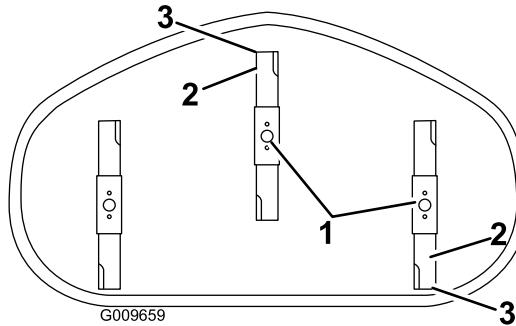

Figure 49
4. Carefully rotate the blades so they are facing front to rear (Figure 49).
5. Measure from the tip of the front blade to the flat surface and the tip of the rear blade to the flat surface (Figure 49). If the front blade tip is not 1/16-5/16 inch (1.6-7.9 mm) lower than the rear blade tip, adjust the front locknut.
- 8. After adjustment, check the front-to-rear slope again. Continue adjusting the nut until the front blade tip is 1/16-5/16 inch (1.6-7.9 mm) lower than the rear blade tip (Figure 49).